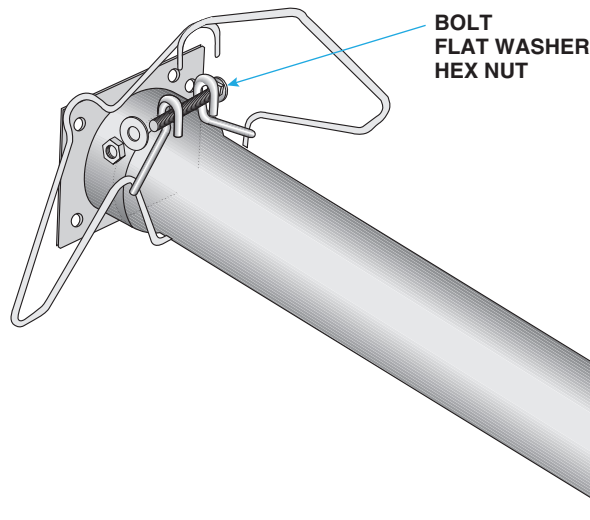

Figure 10. Installation of Suspension Bracket with Clamp
2. Install suspension bracket with clamp on burner tube as shown in **Figure 10**. Tighten clamp using bolt, flat washer, and hex nut torqued to 120 inch-pounds. For model VZH, ensure that this assembly is also used as second bracket downstream from burner cabinet.